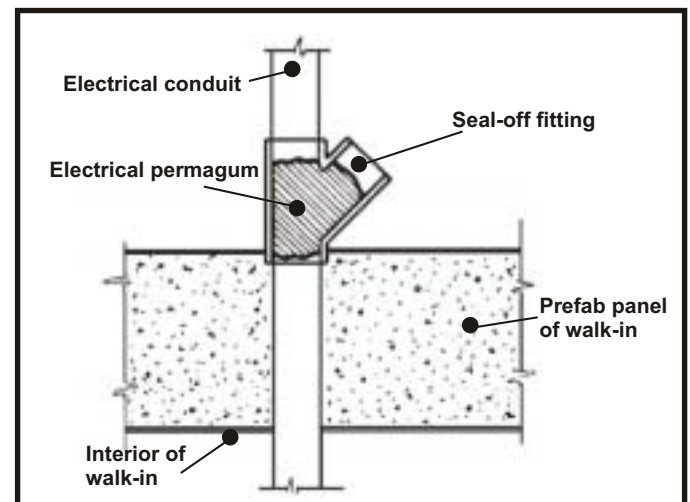

Fig. 33
- C. Condensation in electrical junction boxes is caused by warm vapor passing from the exterior to the interior of the walk-in through electrical conduit lines. This problem can be eliminated by installing a seal-off fitting in the conduit line where it passes through the wall. Install the fitting as shown in Fig. 33 and fill it with sealant.